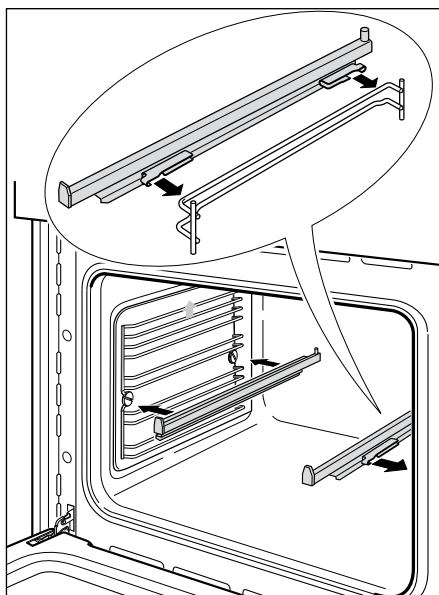

Fig.35b Refitting the sliding shelf supports
- 2 Fit the sliding shelf support onto the top wire of a rack and press (Fig. 35b). You will hear a click as the safety locks clip over the wire.
- *the slides so that they run out towards the oven door, as shown in Fig. 35b.*